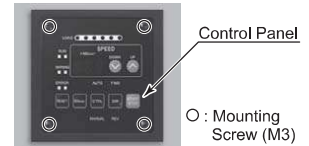

Fig. 6
- ① Attach the Control Panel to the Case A by using the Mounting Screw (M3 : Standard Accessories) 4 positions (Fig. 6).